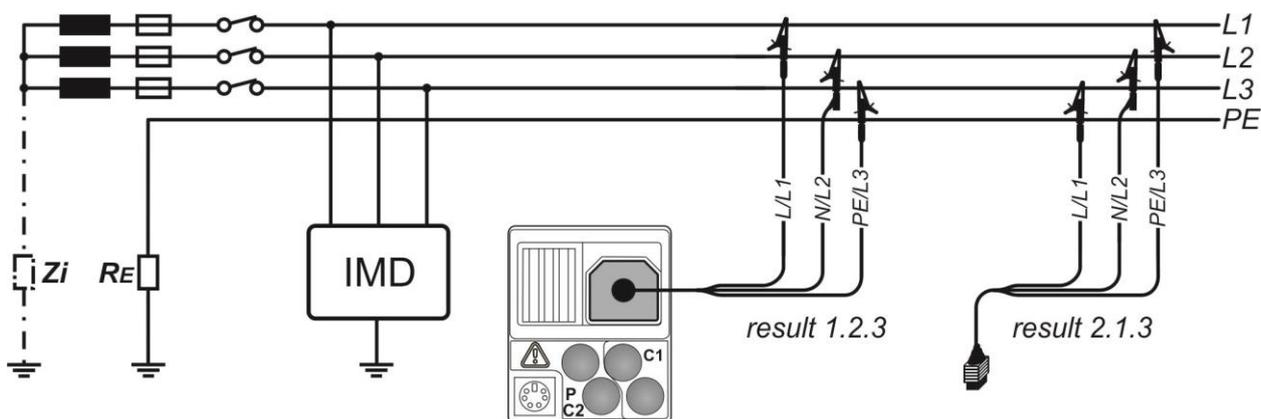
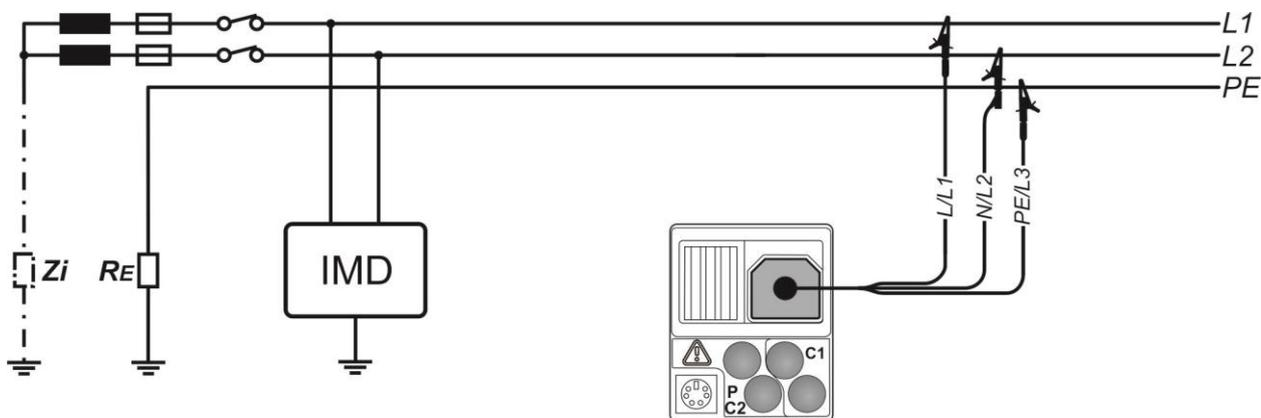

Figure 5.2: Connection of 3-wire test lead in three-phase IT system
Figure 5.3: Connection of 3-wire test lead in single-phase IT system
- ❑ **Connect** test leads to the item to be tested (see *Figure 5.2* and *Figure 5.3*).